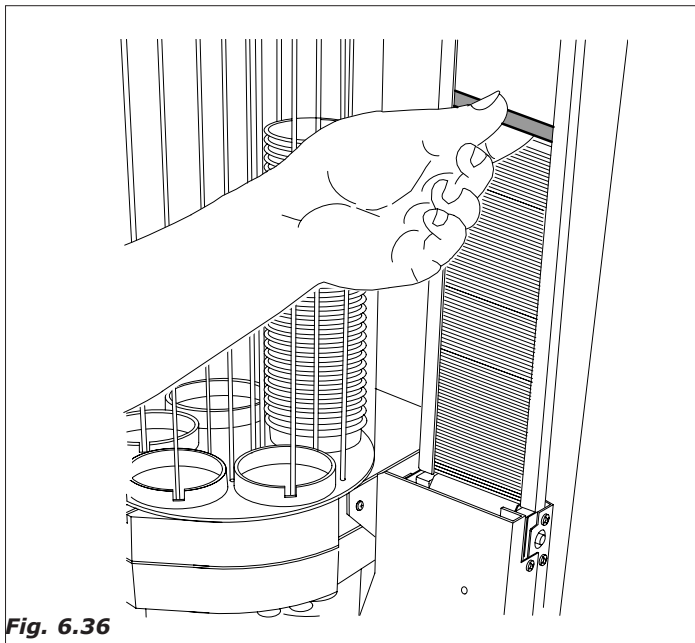

Fig. 6.36
- Check that the spoon are cut burr-free, that they are not bent and that they are all placed horizontally (Fig. 6.36).